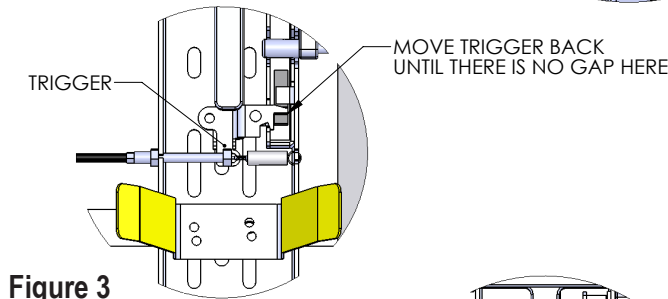

**Figure 2**
3. Once you have installed the unit in the SCBA seat, you may have to adjust the cable housing slightly to have a proper release of the halo, you can adjust this by simply loosening one of the two nuts on the cable assemble where it attached to the back frame, you can now adjust the release as needed, once you have the proper release, re-tighten nuts firmly (Figure 2, 3 & 4) Unit is ready to use.